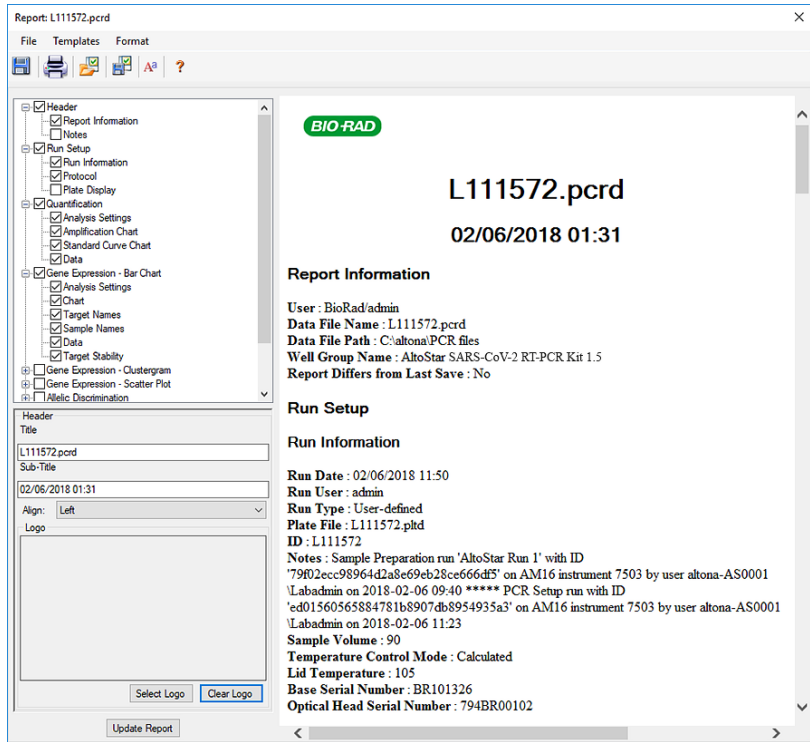

Figure 45: Report dialog: Export of the results as Report
4. In the menu bar of the **Data Analysis** window click **Tools** → **Reports...** to open the **Report** dialog (see Figure 45).